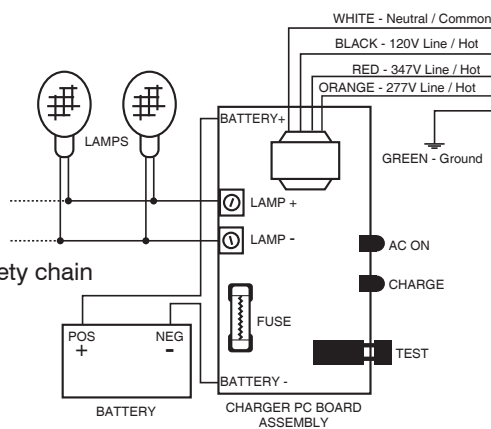

Figure 4
6. Uncoil the wire lead(s) from the Positive circuit board terminal (+) and connect to the positive terminal connector on the battery (Figure 4).
10. Plug (2) lamp sockets into lamp (figure 4).
11. Plug male to female inline connectors (figure 4).